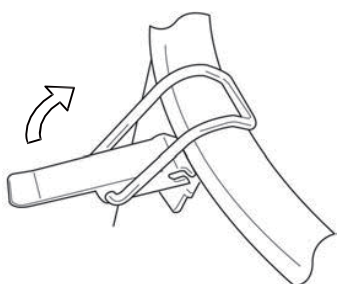

Fig.1
- 1) Unlock the locking clips (8) on the tank and remove the cover (1) (**fig. 1**).